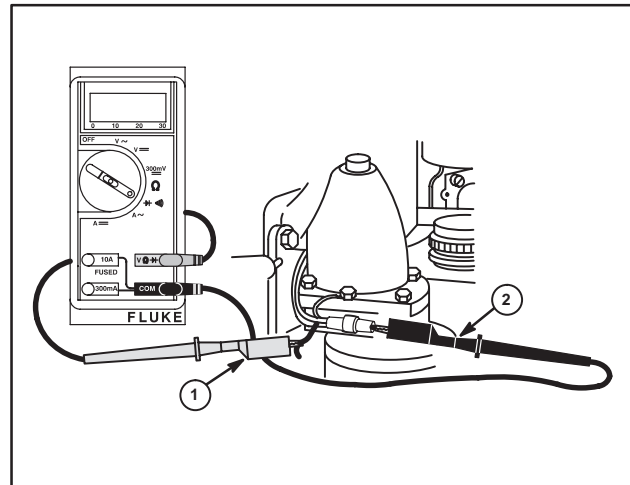

Fig. 24
1. Insert RED test lead (1) into $V \Omega \rightarrow +$ receptacle in meter.
2. Insert BLACK test lead (2) into COM receptacle in meter.
5. Pierce one output wire with a pin and touch RED test lead probe to pin as shown in Fig. 24, Typical.